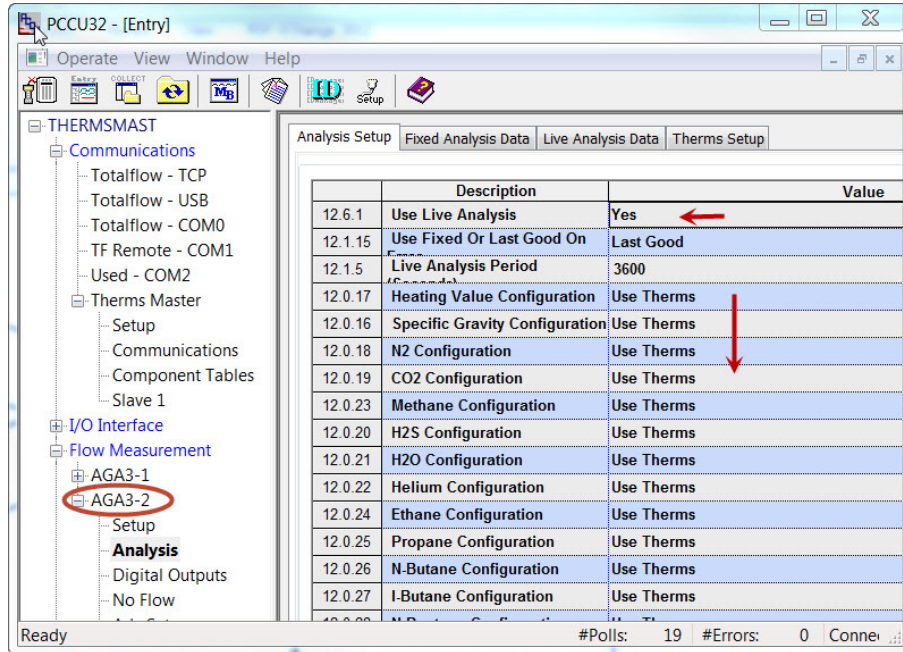
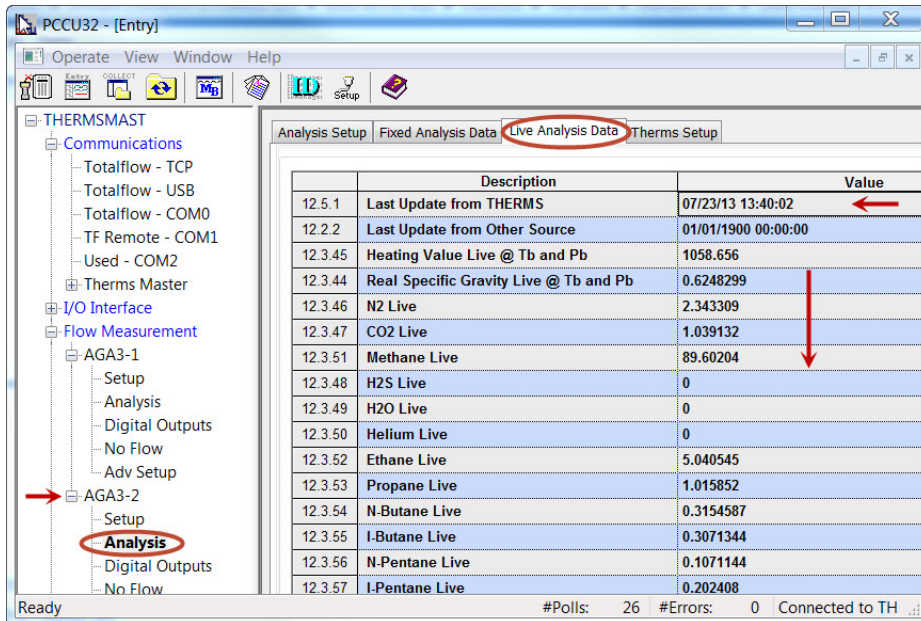

Figure 32. Configuring Therms Master tube 2
Figure 33. Verify Therms Master tube 2 is receiving analysis data
- 10) Repeat Steps 1-11 for each of the measurement applications in the Therms Master. For our example there is an additional measurement instance for tube 2 as shown in Figure 32 which should also be receiving data after proper configuration as shown in Figure 33.